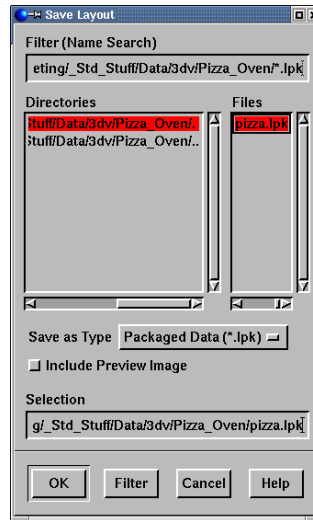

Figure 5-14. The Save Layout dialog in Motif, showing the Packaged Data (*.lpk) and Include Preview Image options.
2. Choose “Packaged Data (*.lpk)” from the Files of type drop-down, as shown in Figure 5-14.